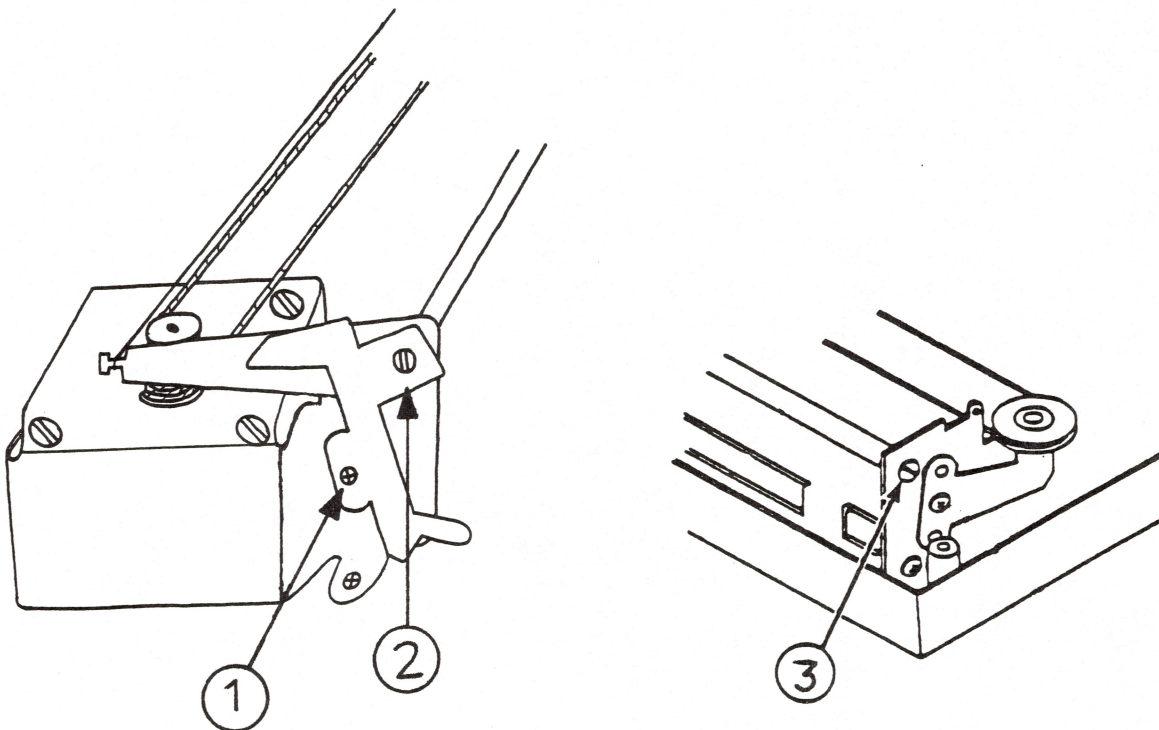

FIGURE 5
8. **(Omit this step for the 15 inch ImageWriter.)** Remove the screw on the left end of the carrier guide shaft (see Figure 5, #1) and set aside the support brace.
9. Remove the screw on the left end of the guide shaft (see Figure 5, #2) and remove the ribbon wire arm.
11. Remove the screw on the right end of the shaft (see Figure 5, #3).